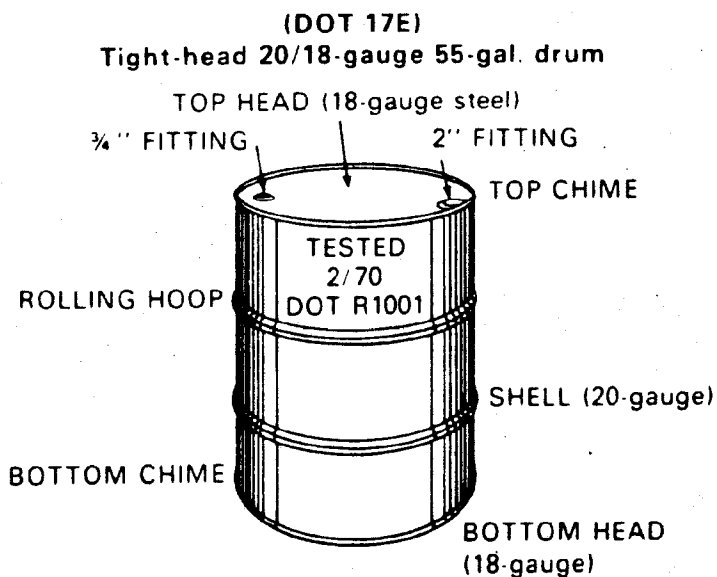

Figure 1 DOT 17E - 55-gal. drum
- (1) All drums that qualify for reuse must be marked on the body within 10 inches of the top with the following information:
- (2) Markings must be at least 1/4 inch figures and the letters on contrasting background. (See figures 1 and 2)